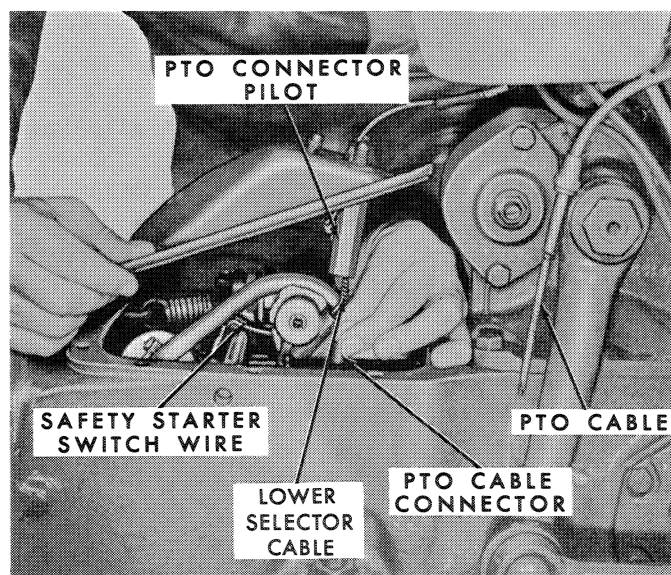

Figure 36
1. Check the control valve to make sure it is in park (P). In park, all of the six spool valves are in the "out" position.
4. Insert the cable through the P.T.O. connector pilot to thread the connector in the pilot. See Figure 36.